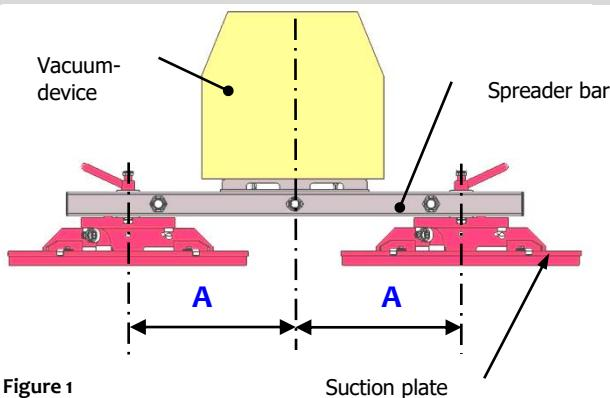

Figure 1
The suction plates must always have the same distance (A) to the vertical centre axis of the crossbar (see figure 1).